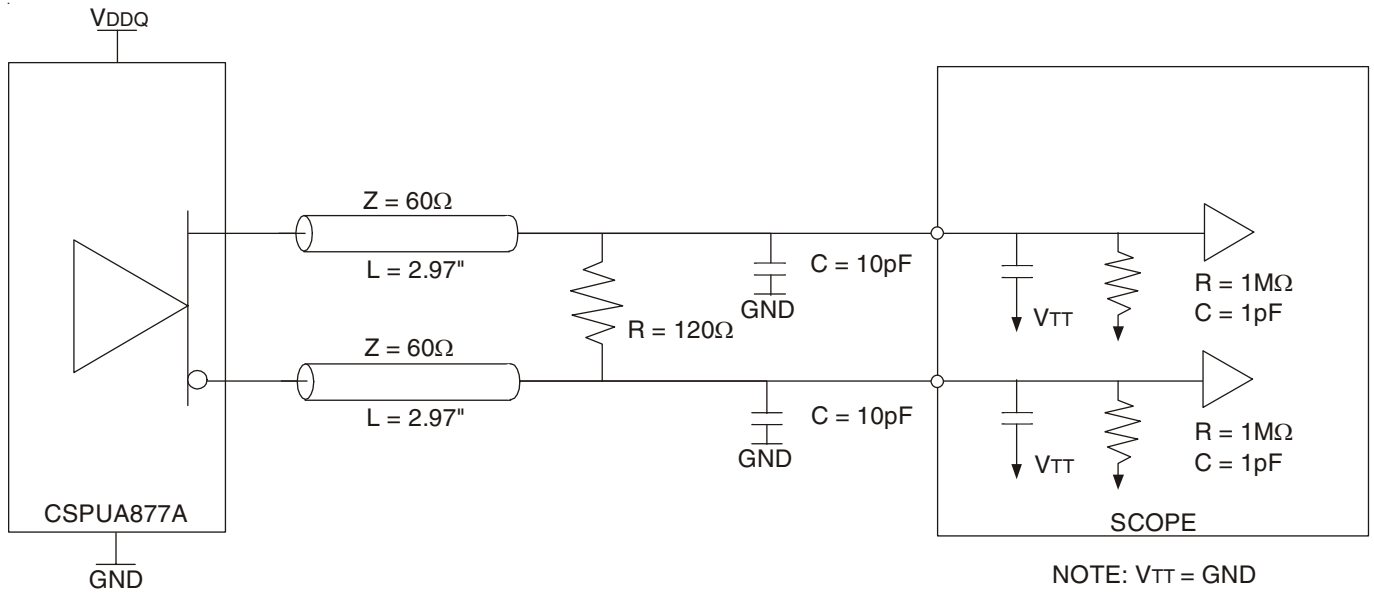

Figure 1: Output Load Test Circuit 1
- There are two different terminations that are used with the above AC tests. The output load shown in figure 1 is used to measure the input and output differential pair cross-voltage only. The output load shown in figure 2 is used to measure all other tests, including input and output slew rates. For consistency, use 50Ω equal length cables with SMA connectors on the test board.
- In the frequency range of 271 - 410MHz, the min and max values for t_{JIT(PER)} and t_{(\emptyset)DYN}, and the max value for tsk(O), must not exceed the corresponding min and max values of the 160 - 270MHz range. Also, the sum of the specified values for | t_{JIT(PER)} |, | t_{(\emptyset)DYN} |, and tsk(O) must meet the requirement for Σ t_(SU), and the sum of the specified values for | t_{(\emptyset)DYN} | and tsk(O) must meet the requirement for Σ t_(H).